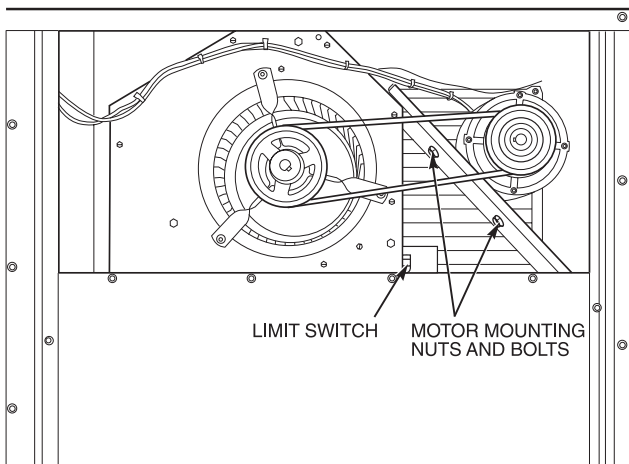

Fig. 47 — Typical Belt-Drive Motor Mounting for Sizes 090, 102
2. Loosen belt by loosening fan motor mounting nuts. See Fig. 47 and 48.